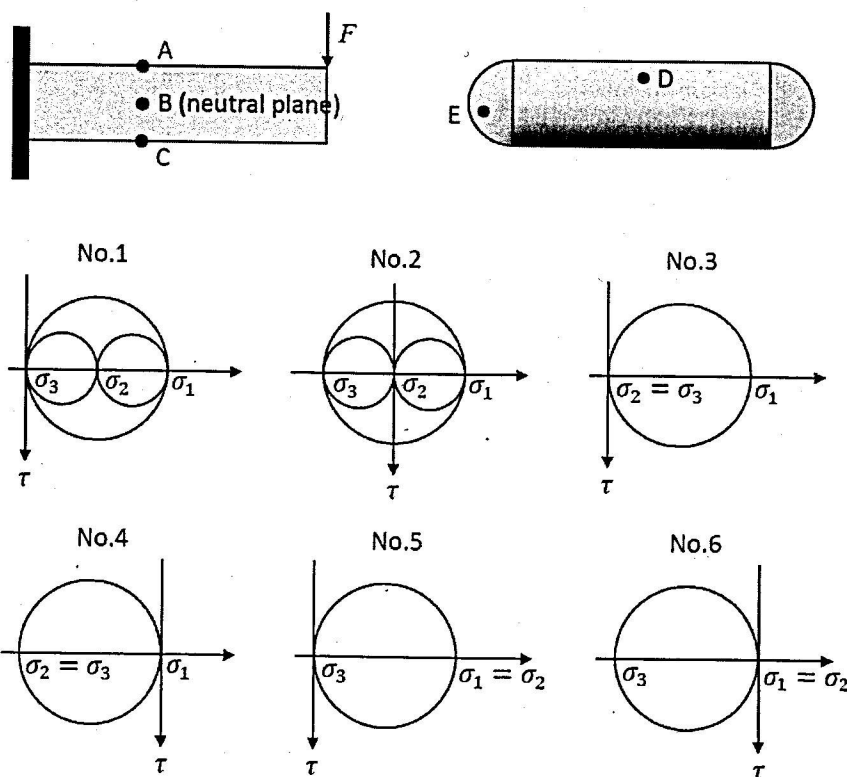

Fig. 1
1.1. [15 Points] Refer to Fig. 1. The points A, B, and C are located in a beam subjected to the vertical load F , and the points D and E are located in a thin-wall pressure vessel subjected to the internal pressure p . The state of stress of each point is represented by a Mohr's circle with the principal stresses $\sigma_1 \geq \sigma_2 \geq \sigma_3$. Answer the following questions: